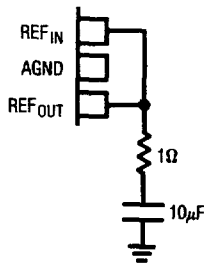
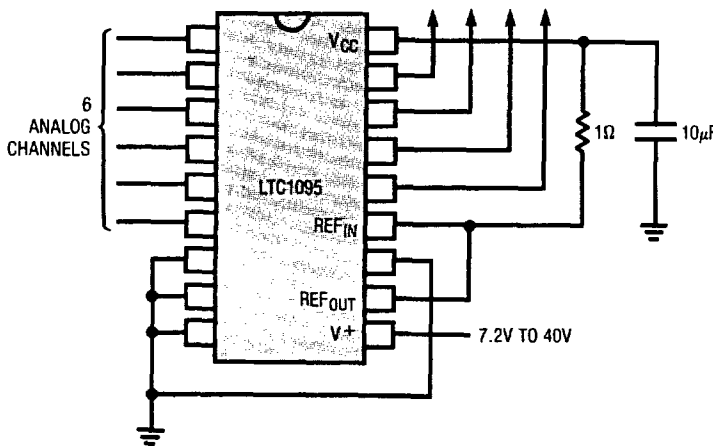

Figure 15. Suggested Circuit for REF_{IN} Tied to REF_{OUT}
Figure 16. LTC1095 Single Supply Operation
The LTC1095 contains an internal precision 5V buried zener reference which is capable of supplying the full scale reference for the converter when connected as shown in Figure 15. With its 10mA output current the reference can also power the A/D and other external circuitry to provide a TTL input/TTL output system running off a single 7.2V-40V supply (see Figure 16).
3. It is recommended that REF_{IN} be tied to REF_{OUT} as shown in Figure 15.